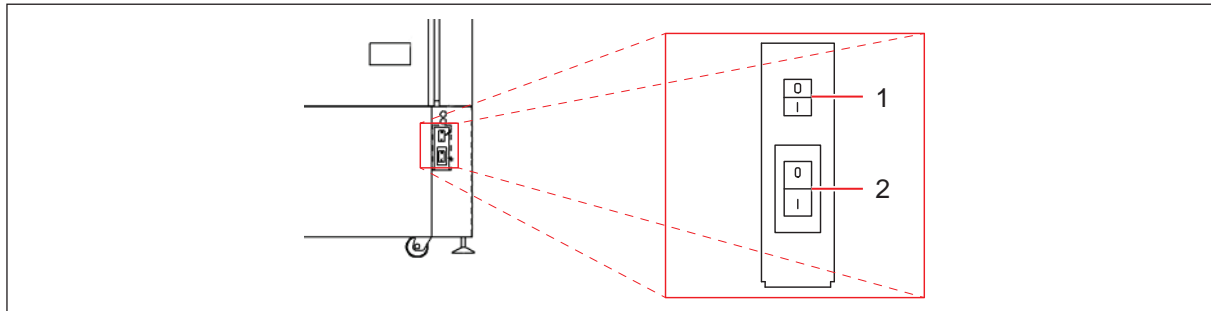

Fig. 6-1: U360 switch location
The equipment is delivered with the audible alarm and alarm battery deactivated. The Power Fail alarm is activated by the battery rocker switch within the lockable panel, which is located at the bottom left-hand corner. The switch is labelled **I (ON)** and **O (OFF)** (see Fig. 6-1 on p. 24).